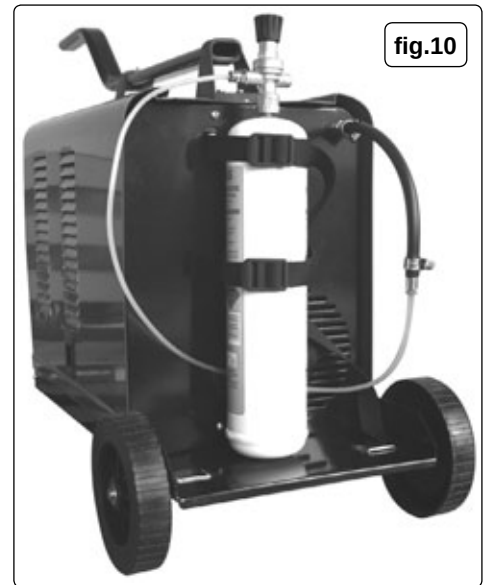

fig.10
For welding stainless steel or aluminium, this welder can be converted to a conventional mig welder. To convert to gas, order a reel of regular wire, a bottle of suitable gas, tips and nozzles and a conversion kit. Kit 120.802032 contains a regulator plus connection hoses, hose adaptor and jubilee clips (see fig.10).
- 7.5 **Mount the gas cylinder:** Strap the gas cylinder to the back of the machine. Two nylon straps are provided to hold small cylinders in place. Thread the straps through the raised metal fixing loops on the back of the welder. Stand the gas cylinder on the rear platform and fix the straps around it as shown in fig.10.
- 7.6 **Connect gas cylinder to welder gas input.** (Kit 120.802032) Push the small adaptor into one end of the larger diameter hose. Push the other end of the hose onto the ribbed gas input connector on the back of the welder. Secure both ends of the hose with the jubilee clips provided. Push one end of the smaller diameter gas hose into the open end of the adaptor and push the other end into the regulator outlet, it will seal automatically. See fig.10. To release the gas hose, press the collet inwards on the quick couplers and pull the hose out.